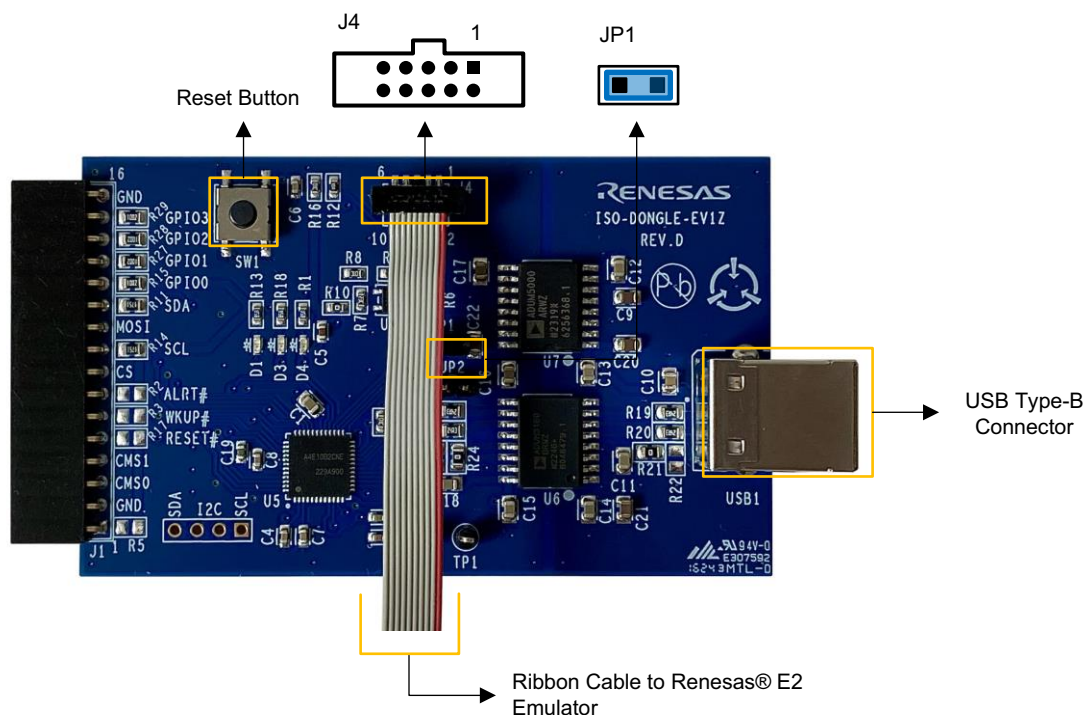

Figure 4. Isolated Communications Dongle with Attached Renesas E2 Emulator
2. Connect the Renesas E2 Emulator or E2 Emulator Lite to the JTAG connector J4 of the dongle board (Figure 4).